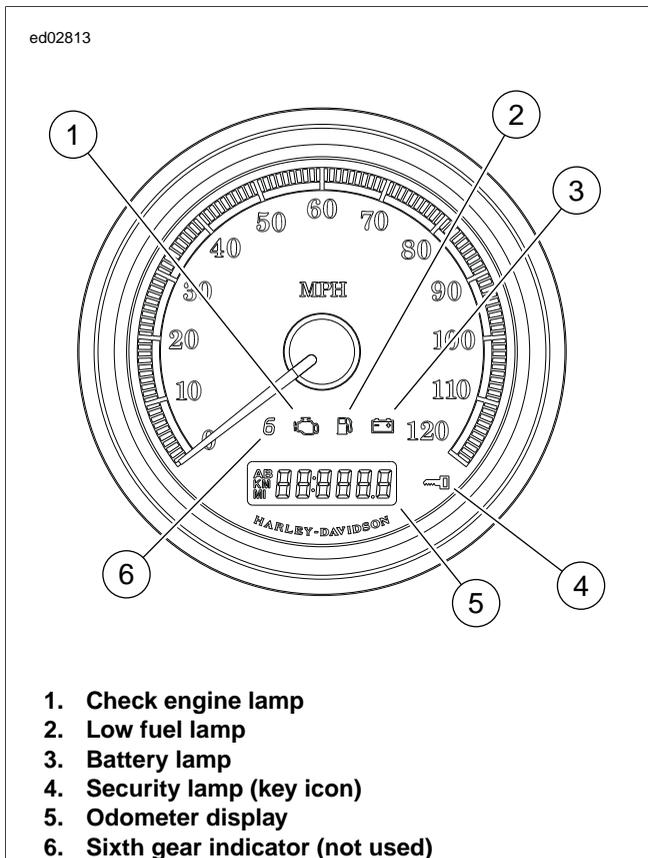

Figure 2-5. Speedometer
- For a quick check of speedometer function, a "WOW" test can be performed. Press and hold trip odometer reset switch (Figure 2-5), then turn Ignition Switch ON. Release trip odometer reset switch. Background lighting should illuminate, gauge needle should sweep its full range of motion, and indicator lamps (check engine, low fuel, battery and security) should illuminate.
See Figure 2-5. The speedometer consists of a speedometer display and five status lamps. The lamps include: check engine (1), low fuel (2), battery (3), security (4) and sixth gear indicator (6).